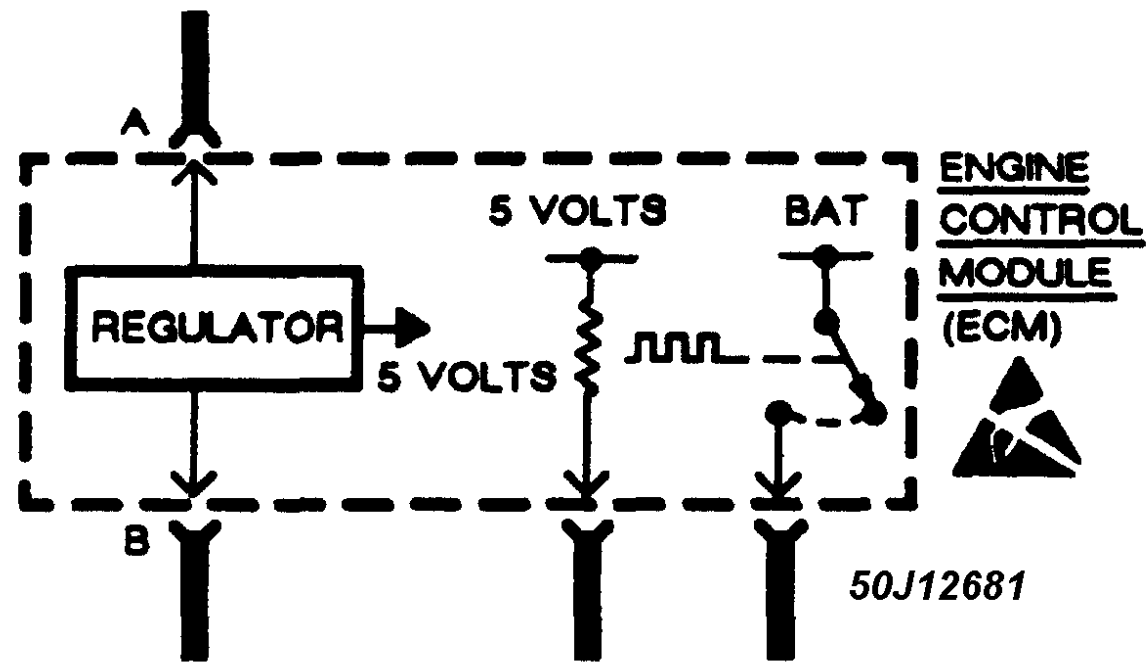

Fig. 2: Sample Schematic Showing Typical ESD Sensitive Device
1. Solid State circuits in electronic devices are shown greatly simplified in schematics. See Fig. 2. Due to the simplification of the